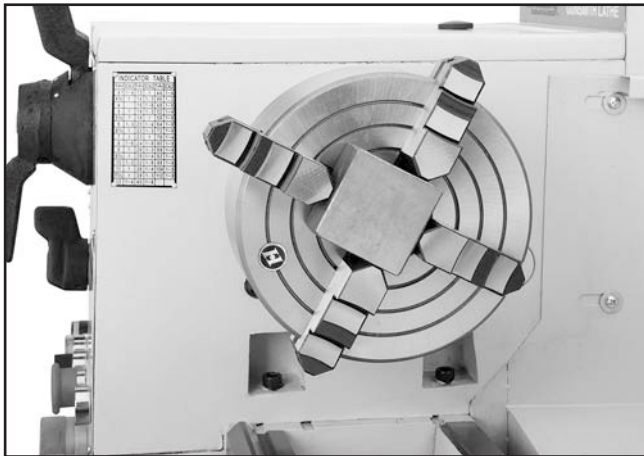

Figure 29. Properly held workpiece for low speed offset boring or machining.
- After the workpiece is held in place, back the tailstock away and rotate the chuck by hand. The center point will move if the workpiece is out of center (see **Figure 29**).